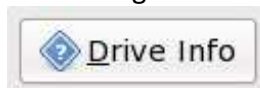

Figure 13: Drive Information Button on main GUI
7.3 The Drive Info button is used to quickly reference detailed hard drive information that is not displayed on the main user interface. See Figure 13.